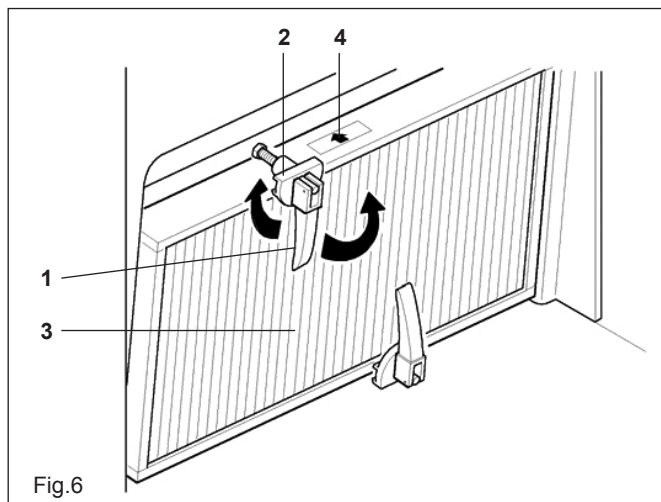

Fig.6
ATTENTION: the filter features an arrow that shows you the direction in which it should be fitted (4 Fig.6).
Follow the fig.6:
The side brush is adjusted by slackening the screws pos.1 Fig.6/A and using the slots to position the brush at the required height. Once you have positioned it, tighten the two screws.
Replacing (Fig.6/C)
Adjusting (Fig.6/B)
To adjust the main brush, remove the top guard, slacken the lock nut pos.1 Fig.6/B and turn adjusting handle pos.2 Fig.6/B in the direction required (counter clockwise to increase pressure). Once the brush has been adjusted, tighten the lock nut again.